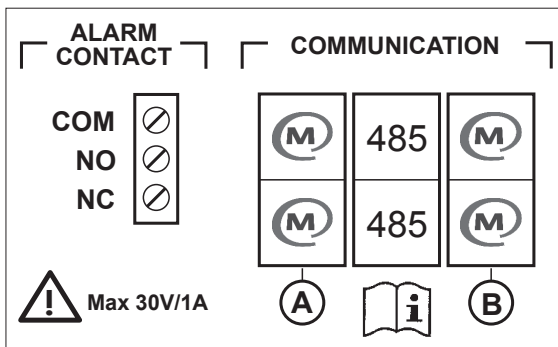

Figure 7-2: Communication label
- Insert the connectors and mount the alarm wiring. See the label in figure 7-2 for more information.